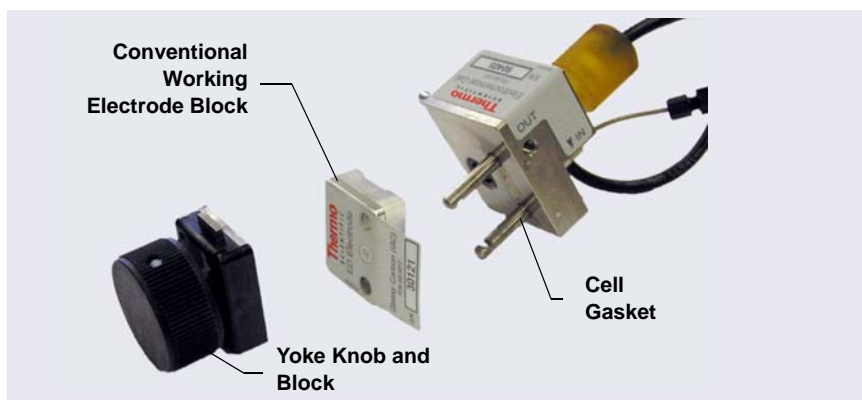

Figure B-6. ED Cell Components
3. Orient the working electrode block as shown in Figure B-6 and then slide it onto the alignment pins.